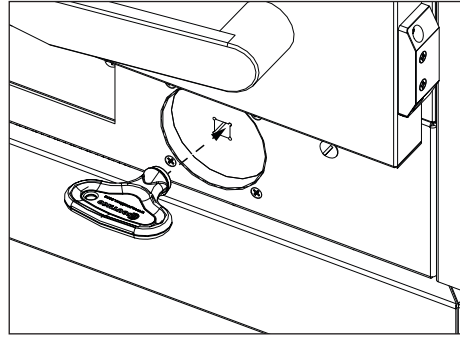

Figure 15. Insert Clean Cycle Key
4. Remove the Cycle Key and insert it into the Cleaning Cartridge (Figure 15). Rotate cartridge counter-clockwise and remove from steamer.